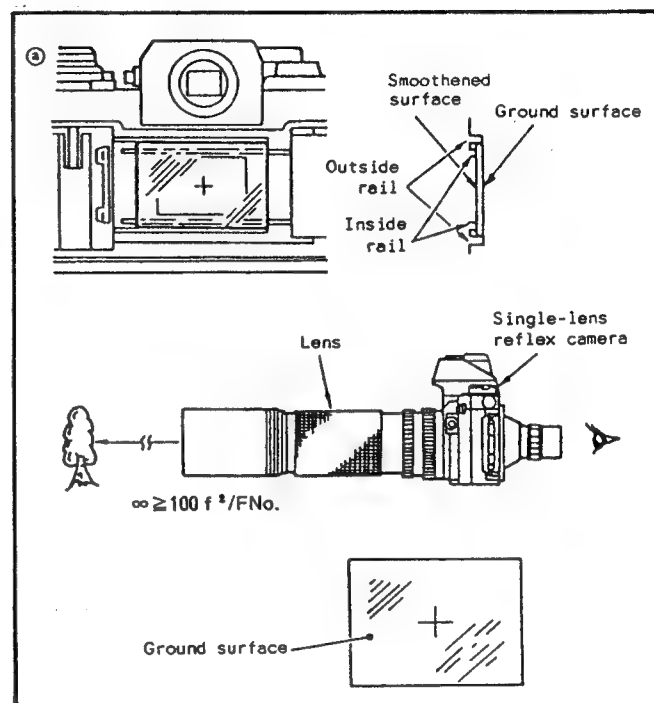

Fig. II-34
- (1) Open the aperture of single-lens reflex camera fully. Then, open the rear lid.
- (2) Secure the ground glass to the inside rail face by pressing it. At this step, the ground surface should face the lens side.
- (3) Shoot a scene at infinity. To check if it is in best focus, enlarge the image on the ground glass by a magnifier.
* Note: Distance for infinity: See the Fig. II-34.
- (4) After the above checking, remove the ground glass once and mark cross hair-lines on it. Then, attach it to the camera again.